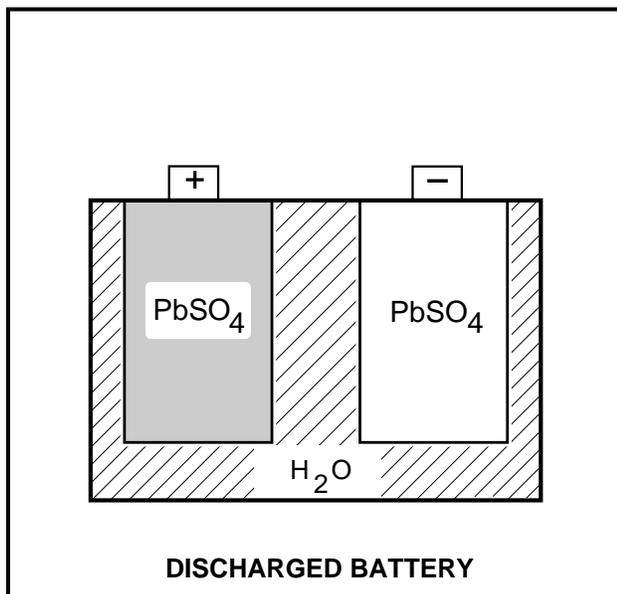

Figure 13-3 Discharged Battery
The sulfate (SO_4) combines with the lead (Pb) on both plates, forming lead sulfate (PbSO_4). Oxygen (O_2) from the positive plates combines with the hydrogen (H) from the electrolyte to form water (H_2O) (Figure 13-3, Page 13-2).